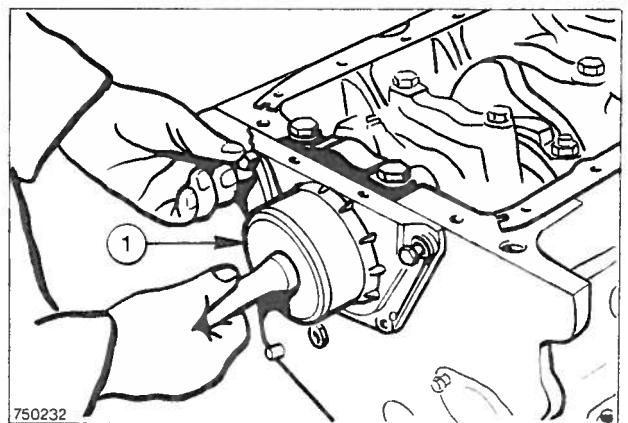

Fig. 30 Centralising the crankshaft rear oil seal cover
- Fit a new oil seal to the rear crankshaft cover. Apply a thin coat of grease to specification ESEW-M1C-1004-A to the crankshaft oil seal journal. Fit a new gasket and position the cover to the back using the centraliser, Tool No. 21-011A, Fig. 30, to centralise the oil seal around the crankshaft. The seal should be parallel to the joint face and positioned such that it runs on an unused part of the shaft to the engine side of the previous locations. Ensure that the lower face of the retainer is parallel to the cylinder block face and fit the lower two bolts to align the gasket. Fit the remaining two bolts to align the gasket. Fit the remaining two bolts and tighten all four bolts to the specified torque (see Specifications).